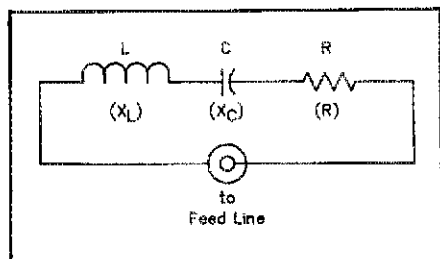

Fig 3—The equivalent circuit of a dipole antenna, showing how its resistance and capacitive and inductive reactances form a series-resonant circuit.
A simple dipole antenna can be thought of as a series-resonant circuit made up of an inductor (L), a capacitor (C) and a resistor (R) (Fig 3). The inductor's reactance, X_L , increases with frequency. The capacitor's reactance, X_C , decreases with frequency. At some frequency, the reactances are equal (but opposite in sign) so they cancel. This is the resonant frequency of the antenna. Since only the resistance remains, we can measure it with a Wheatstone bridge.